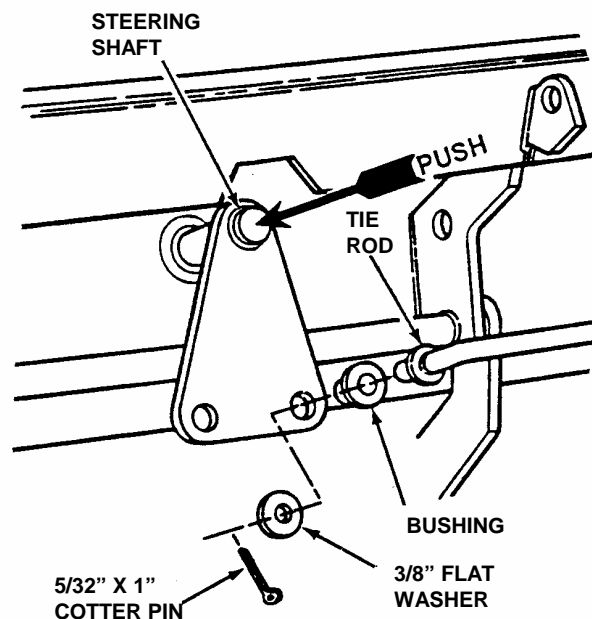

FIGURE 2
- Push steering shaft into place (See figure 2).
- Install tie rods into steering shaft. Secure with 3/8" flat washers and 5/32" x 1" cotter-pins. See Figure 2.